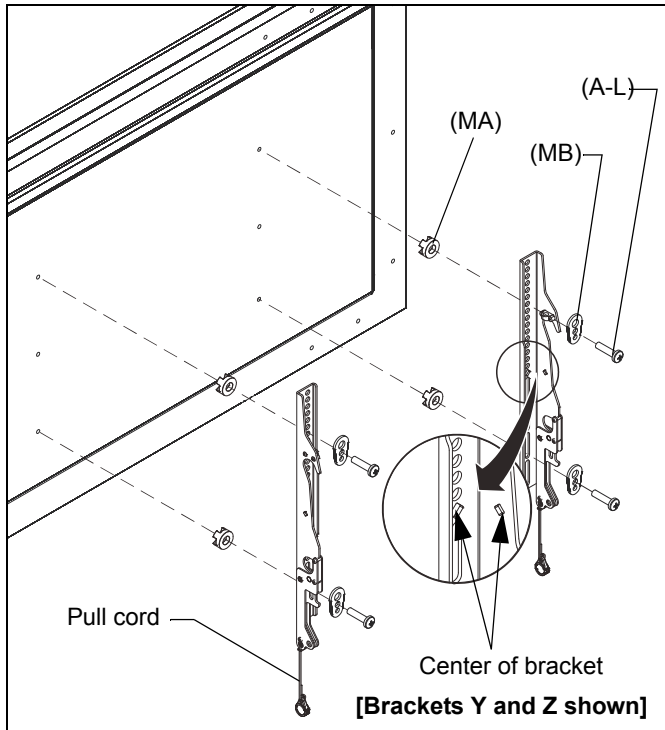

Figure 5
1. Align the center of the bracket (Y and Z or AA and BB) with center of screen. (See Figure 5)
2. Select correct screws, nesting spacers (if necessary) and universal washers from the hardware bag (A-M) and attach brackets to back of screen. (See Figure 5)